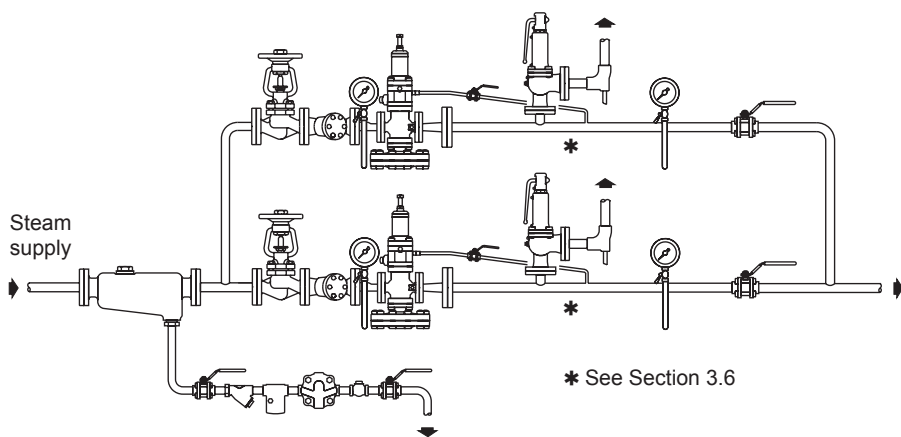
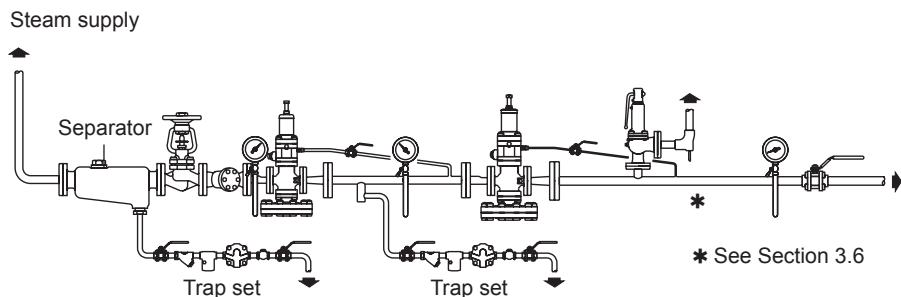
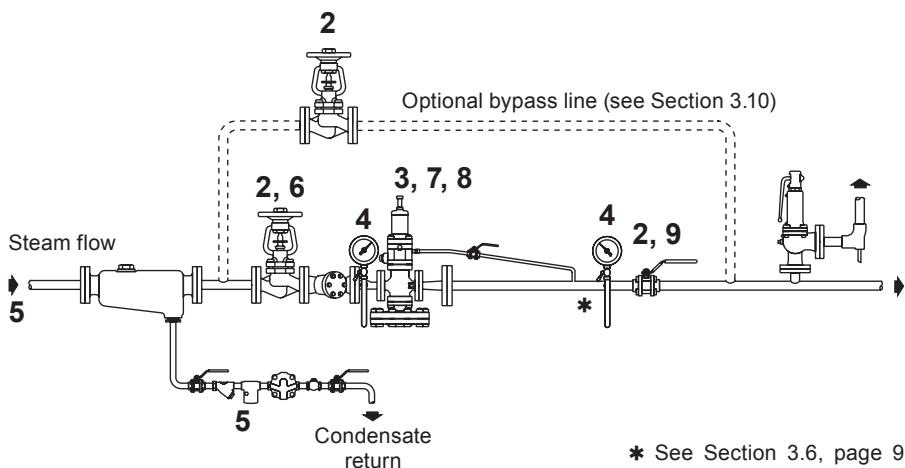

Fig. 3 Two pressure reducing valves in parallel
Fig. 4 Two pressure reducing valves installed in series
Fig. 6 Setting procedure sequence DP27S
The valve should always be fitted in a horizontal pipeline with the main diaphragm chamber below the line (Figure 2). To meet high capacities or widely varying loads, or where stand-by facility is required, two or more valves may be used in parallel (Figure 3). For pressure turndown in excess of 10 to 1 consideration should be given to using the two valves in series. To avoid instability pipework volume between the valves should be equivalent to at least 50 pipe diameters in length of the intermediate correctly sized pipework. To ensure adequate drainage of the space between the two reducing valves a trap set should be fitted as shown in Figure 4.
For continuous duty applications where a constant steam supply is essential then a parallel stand-by PRV station is recommended to allow for planned maintenance, see Figure 3, page 9. Alternatively a bypass line can be used (see Figure 6, page 12). It is important that the bypass should have a similar capacity to the pressure reducing valve which is achieved by choosing an appropriately sized valve or by using a reduced orifice in the line.
4.1 Setting procedure (Figure 6)